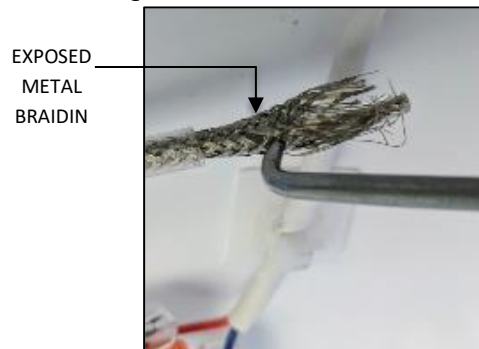
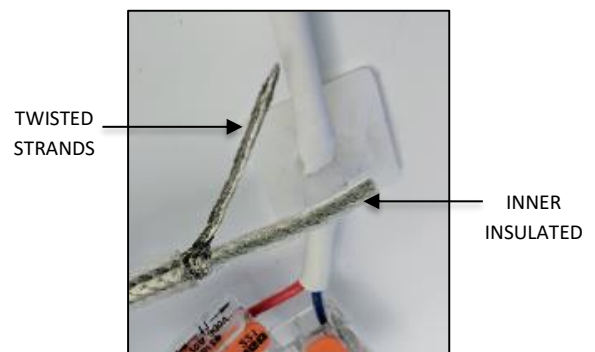

FIG. 32
FIG. 33
- Using a small pointed object, begin unweaving the exposed metal braiding as shown in FIG. 32 below. Position the unwoven metal strands on one side of the inner insulated wire and twist the individual strands together as shown in FIG. 33 below.